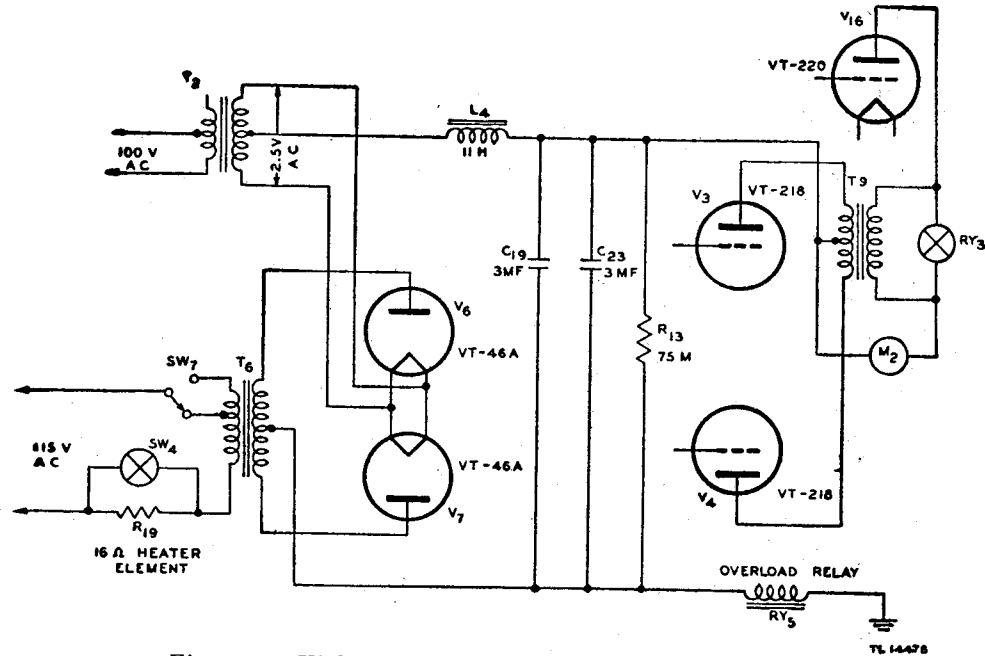

Figure 65. High-voltage power supply—functional diagram.
c. HIGH-VOLTAGE POWER SUPPLY (fig. 65). The high-voltage power supply furnishes d-c plate voltage for modulator tubes  $V_3$  and  $V_4$ , and p-a tube  $V_{16}$ . Tubes  $V_6$  and  $V_7$  (Tubes JAN-866A (VT-46A)) are connected in a full-wave rectifier circuit. Transformer  $T_6$  furnishes filament current to the rectifier tubes; transformer  $T_6$  furnishes the high a-c voltage to the rectifier plates. The rectified high voltage is applied to an L-section filter consisting of filter choke  $L_4$ , and filter capacitors  $C_{19}$  and  $C_{23}$  in parallel. Resistor  $R_{13}$ , the bleeder resistor, is connected across the output of the power supply and serves to discharge capacitors  $C_{19}$  and  $C_{23}$  when the power is turned off. Switch  $SW_7$ , the C.W.-PHONE switch, reduces the voltage applied to the plates of the rectifier tubes during phone operation. Switch  $SW_4$  is the HIGH VOLTAGE PROTECT switch. When set to HIGH VOLTAGE PROTECT it connects resistor  $R_{19}$  (heater element) in series with one side of the primary of transformer  $T_6$  to reduce the output voltage of the rectifier during tune-up
d. P. A. PLATE METER  $M_2$  (fig. 65). P. A. PLATE meter  $M_2$  is a 0- to 500-ma, d-c millimeter located on the front panel of the transmitter. Its purpose is to indicate the d-c plate current of p-a tube  $V_{16}$ . The meter is connected in the high-voltage plate lead to tube  $V_{16}$ , and is isolated from the radio frequency in the tank coil by r-f choke coil  $CH_4$  and bypass capacitor  $C_{11}$ .